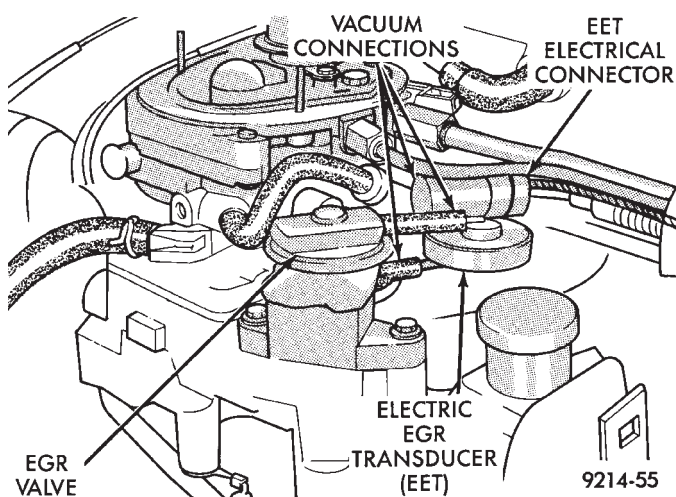

Fig. 4 Electric EGR Transducer (EET) Assembly
(4) Verify the wiring connector is attached to the Electric EGR Transducer (EET) solenoid (Fig. 4).
(5) Verify vacuum connection at the Electric EGR Transducer is secure and not leaking (Fig. 4).